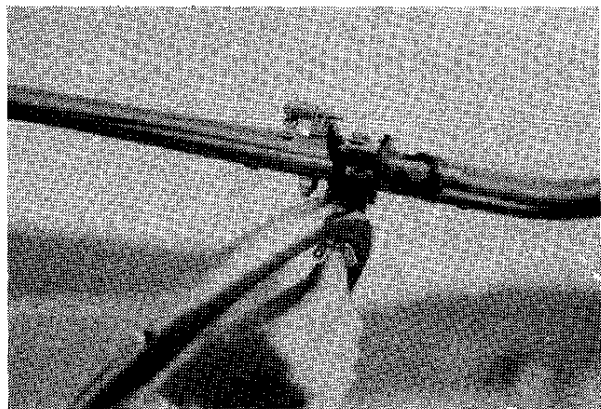

Figure 2.23
29. Attach rudder brace to tail skid using AN4-26, wingnut and safety ring. Be sure to insert saddle fittings. **Figure 2.23**